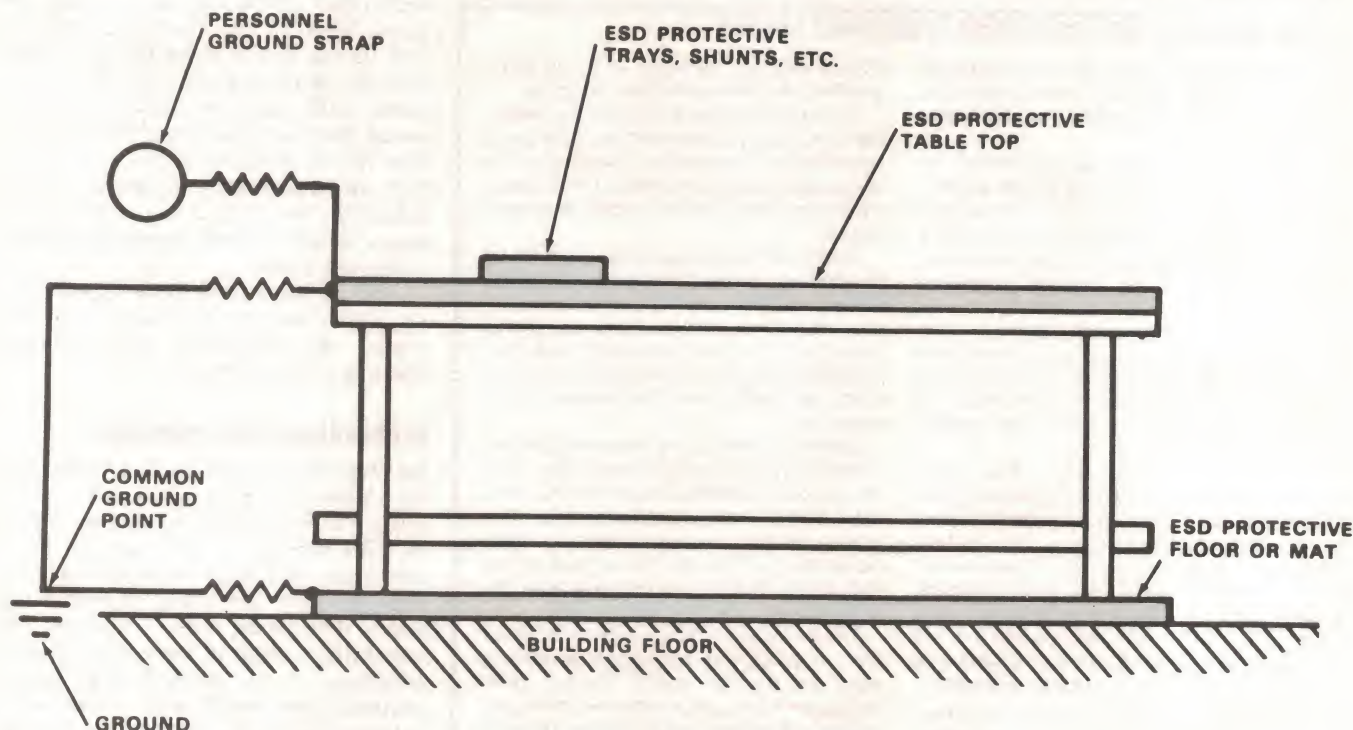

Figure 5. Typical ESD grounded work bench.
3. Maintain good grounding techniques by keeping equipment and personnel at the same potential. Use conductive countertops, floor matings, wrist straps, or arm sleeves, and make proper connections to a grounding source. (See Figure 5.)